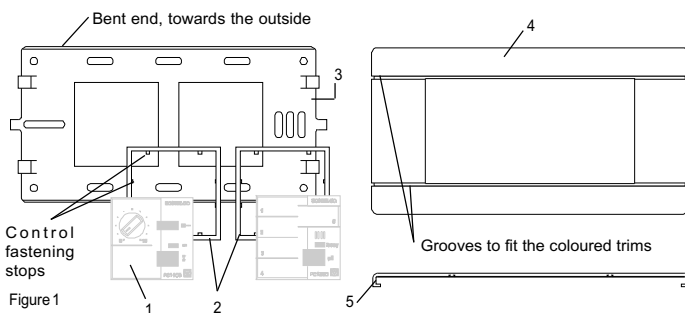

Figure 1
**3 - RECTANGULAR FRONT FRAME FOR "SONELCO" BOX 4901 or DOUBLE UNIVERSAL BOX (Adaptation for 2 modules):** To assembly the control correctly, place the base plate as shown in figure 1, with the bent edge towards the side where the control is inserted.